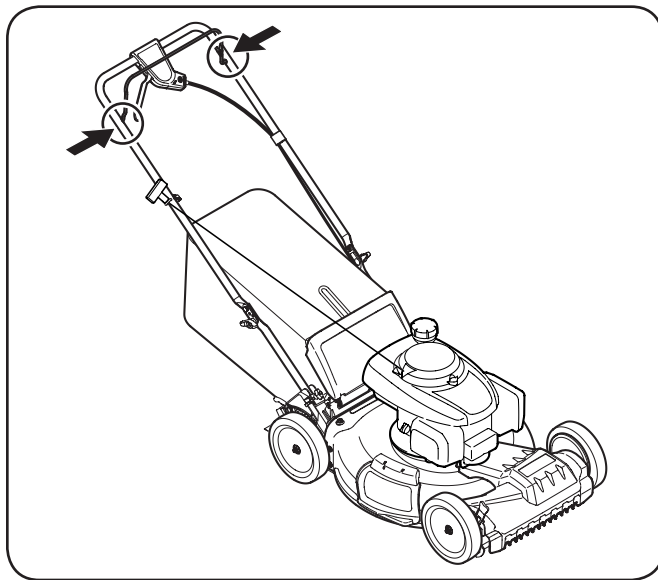

Figure 6-1
1. Lubricate pivot points on the blade and drive controls at least once a season with light oil. These controls must operate freely in both directions. See Fig. 6-1.